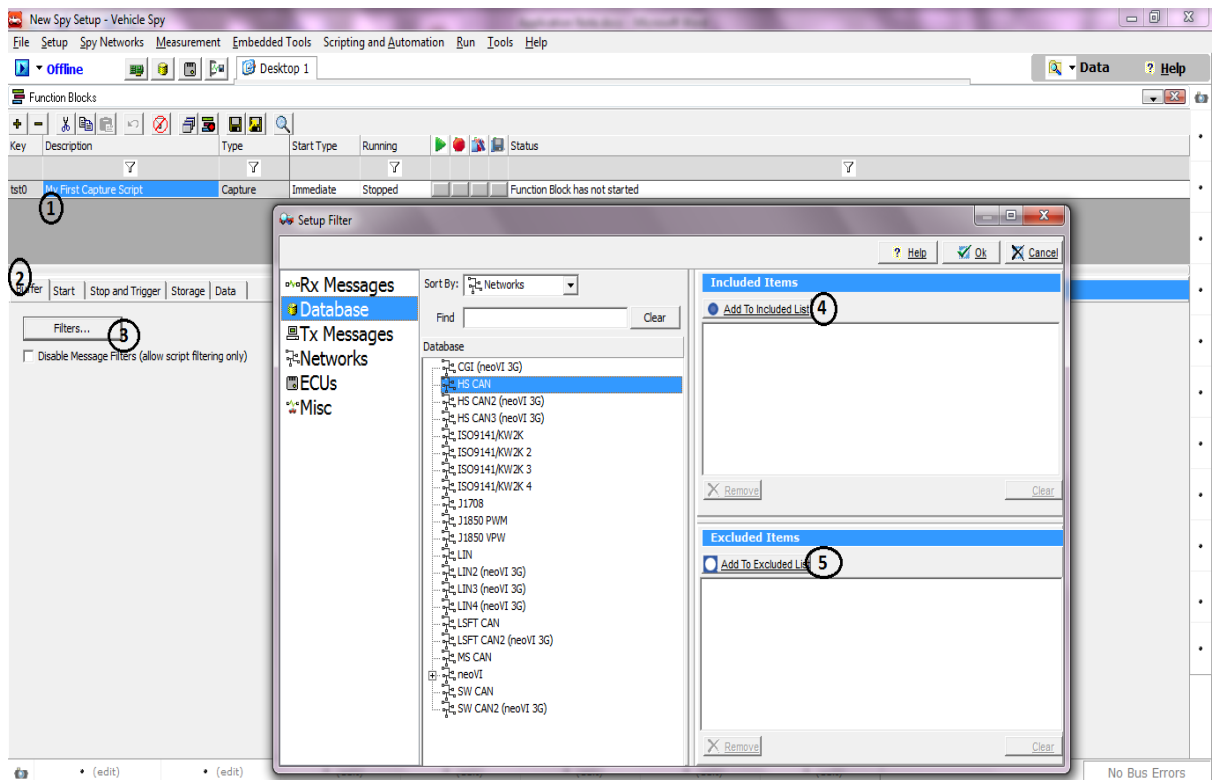

Figure 4: Capture Function Blocks Filter option.
Click on the description field (1) and name the script as you wish. Click on buffer tab (2) and click on filter tab (3) to setup filter Refer Figure 4.